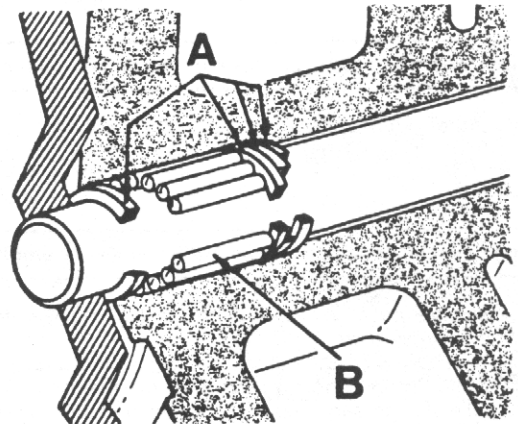

Fig 6.17 Needle roller (B) and spacer (A) arrangement when reassembling early N type gearbox (Sec 13)
- 4 Smear grease inside the end of the countershaft gear cluster, then fit the spacers and needle roller bearings – there are 21 needle rollers. If the needle rollers are being renewed, make sure that all the rollers at any one end of the gear cluster come from the same pack. Do not mix old and new needle rollers, or rollers from different packs. On early models, the countershaft bearing bore was 33.0 mm long; on later models it is 27.75 mm long, and the needle rollers are correspondingly shorter. When rebuilding an early gearbox, use the newer shorter rollers, and insert two extra spacers behind them – see Fig. 6.17. Make sure that